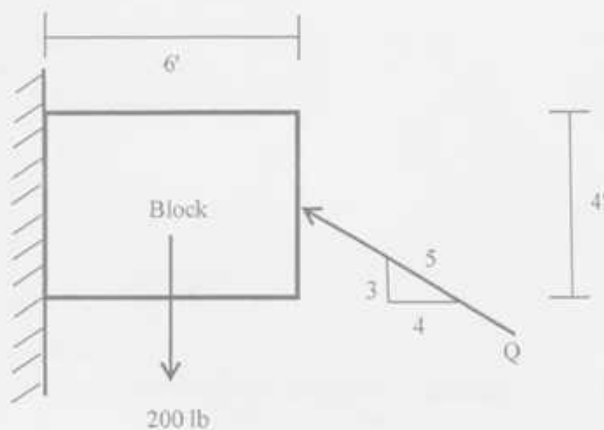

Figure 4
4. Determine the minimum amount of force that can be applied to the block in Figure 4 to maintain its impending motion. Given that $f_s = 0.2$.